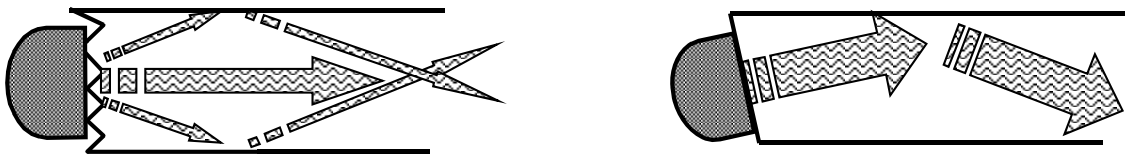

Figure 2 Rough and angled transducer contact
- Rough or irregular surface's which prevent adequate contact with the transducer. Irregular or rough surfaces can be filled with couplant, but energy transmission will still be reduced and dispersed causing mode conversions to occur from reflections off the side walls of the bolt, as shown at left of Figure 2.
- Bolt ends not perpendicular to the axis of the bolt, as shown at right of Figure 2. Energy will be transmitted toward the side wall and reflect along the bolt, yielding poor signal quality and possible measurement errors. Avoid alignment errors exceeding 2 degrees.